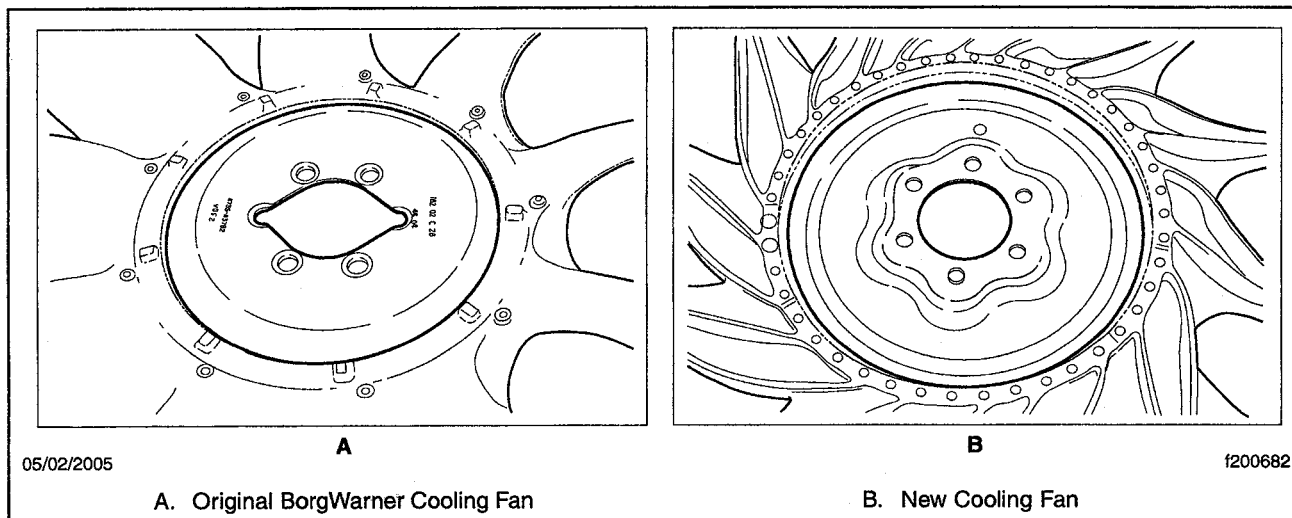

Fig. 1, Original Engine Cooling Fan, and New Cooling Fan from kit 25-FL439-000
8. Push the top of the radiator, to tilt it forward. Carefully move the fan shroud to allow removal, and remove the engine cooling fan. See **Fig. 1, Fan A**, for an illustration of the original BorgWarner engine cooling fan.
9. Position the engine cooling fan (p/n KYS 010021062 from kit 25-FL439-000), see **Fig. 1, Fan B** onto the fan clutch hub.